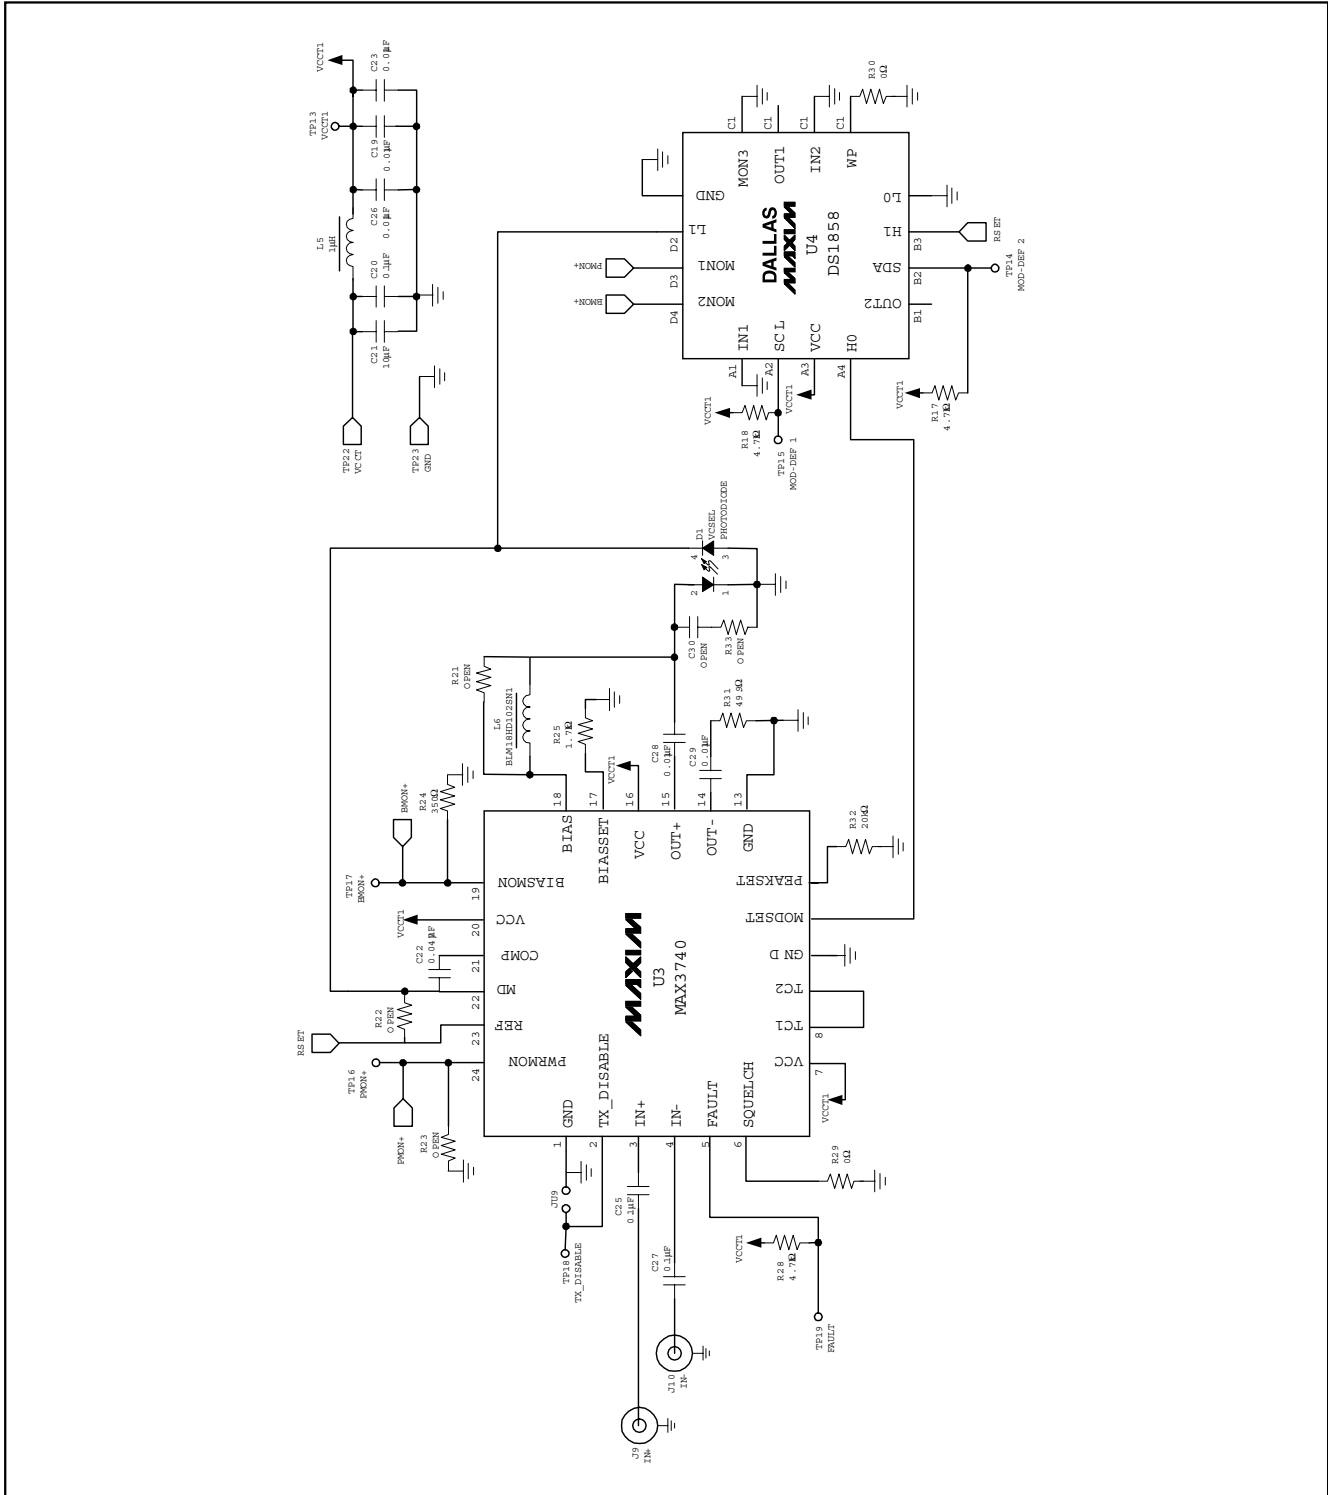

Figure 2. MAX3740 EV Kit Optical Schematic with DS1858
- 2) Connect a common-cathode VCSEL as shown in Figure 2. Keep the leads short to reduce reflection.